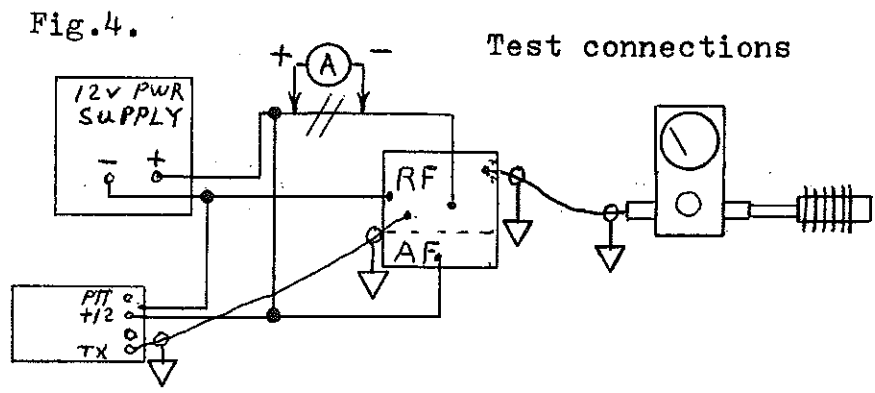

Fig.4.
1. Interconnect the equipment as shown in fig. 4. Set the Channelizer frequency to 147 MHz. (Transmit) Key the Channelizer PTT.
The audio processor section of the T144 requires an independent B+ connection (see section on INTERCONNECTIONS). Connect as shown in fig. 4 For these adjustments.